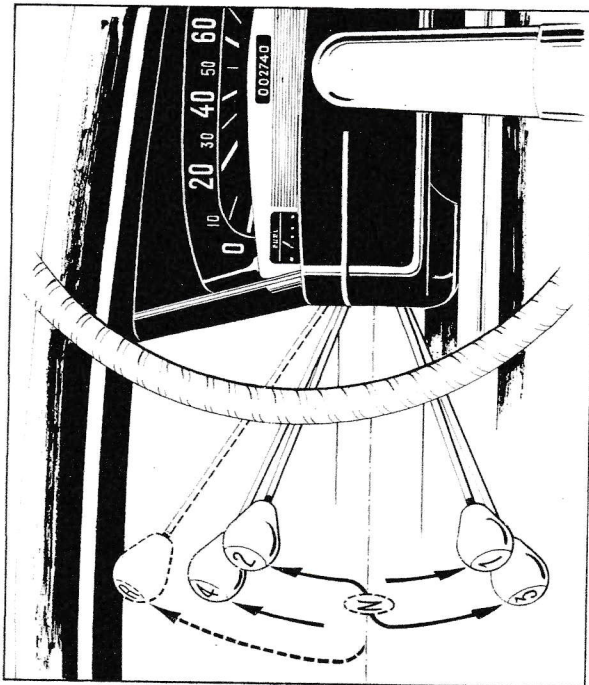

Figure 4
Make sure that the gear lever 5 (fig. 4) is in neutral. Turn on the ignition (switch 2, fig. 4).
**When the engine is cold :** Pull out the choke knob 3 (fig. 4) completely and press the starter knob 4 (fig. 4) without touching the accelerator. If the engine does not start at the first attempt, wait 3 to 4 seconds, then repeat the operation.
Declutch completely. Move the gear shift lever 5 (fig. 4) under the steering wheel smoothly.